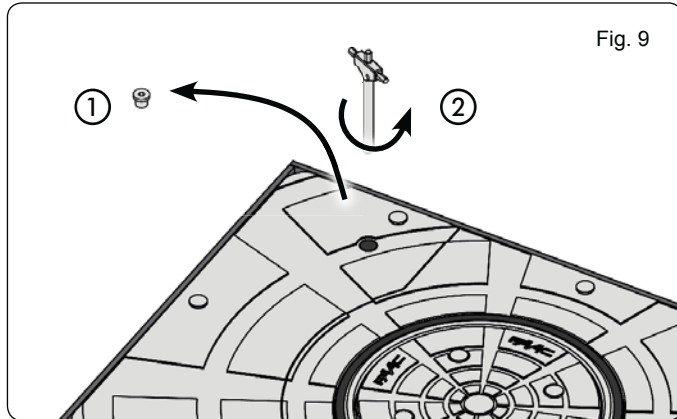

Fig. 9
1. Loosen the closing screw located on the bollard head (fig. 9 ref. ①).
3. Turn counter-clockwise to lower the bollard (fig. 9 ref. ②).